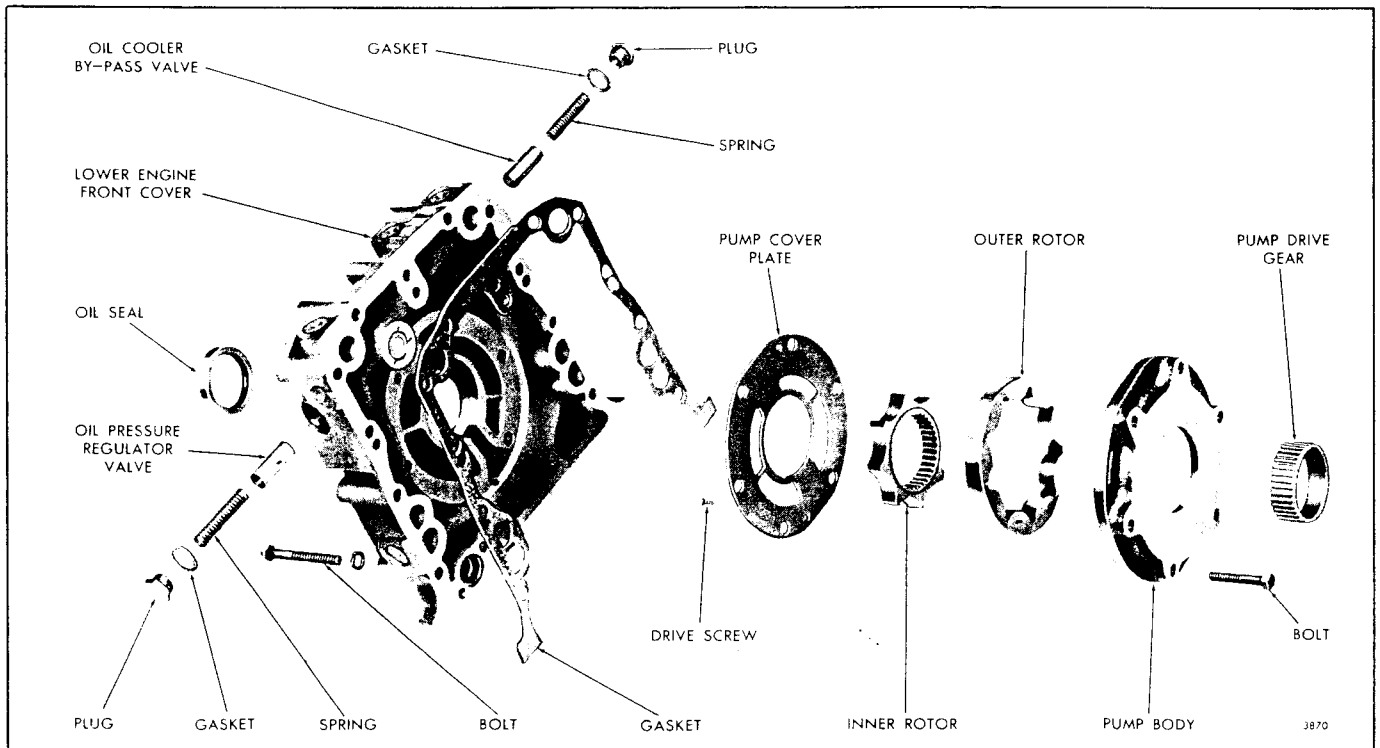

Fig. 5 - Lubricating Oil Pump Details and Relative Location of Parts (Current)
1. Refer to Fig. 5 or 6 and remove the two drive screws holding the pump cover plate to the pump body. Withdraw the cover plate from the pump body.
After the oil pump parts have been cleaned and inspected, refer to Fig. 5 or 6 and assemble the pump as follows: